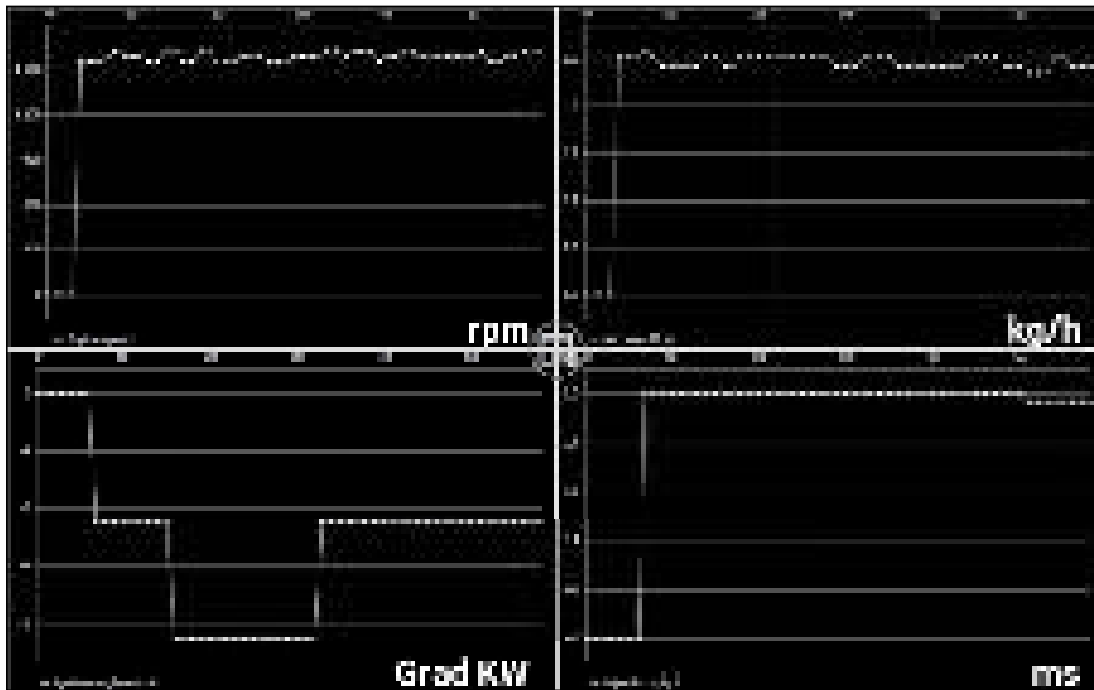

Fig. 7.16
- On submission, the graph view will be displayed as shown in App. (Fig. 7.16)